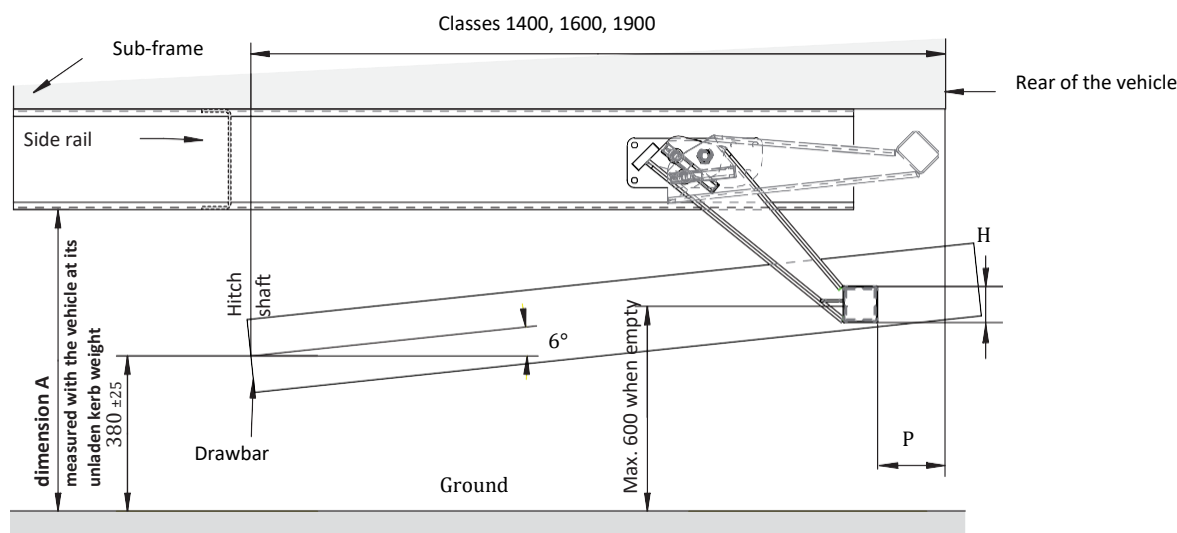

Fig.1
- In manoeuvring conditions, the rotation angle must be able to reach 90° on each side of the longitudinal plane of the tractor unit, and the tilt angle must be able to vary between 0° and 6° (see Fig. 1).